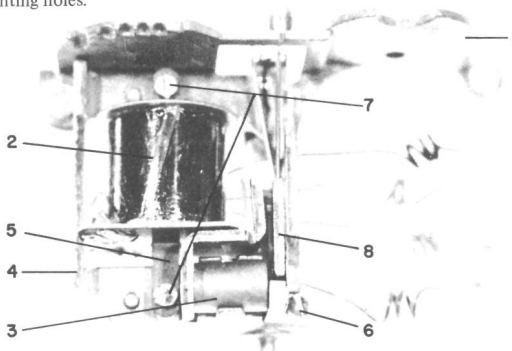
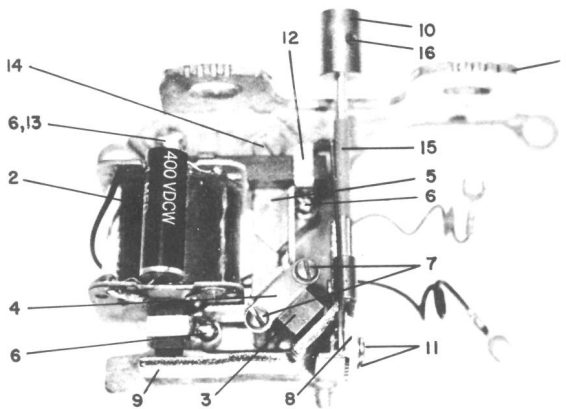

FIGURE 1. TOP VIEW
FIGURE 2. TOP VIEW
1.02 The 79938 ringer mechanism is a double wound coil, straight line, biased type of unit without gongs. (See Figure 1.) It is assembled on an open die-cast metal frame. In combination with type 79939 frequency selective ringer mechanism (See Figure 2) it provides a range of telephone line ringer mechanisms for use with separately mounted gongs. Flexible wire leads are provided for the coil connections of the mechanism and the frame is provided with a number of alternative mounting holes.